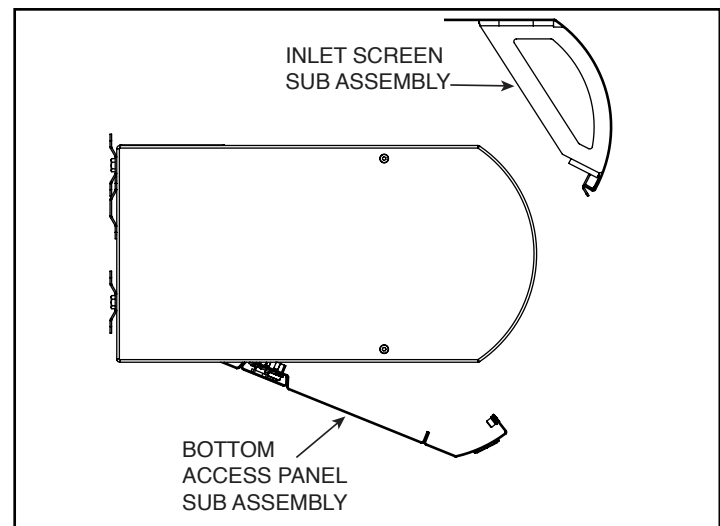

Figure 10 - Bottom Access Panel Removal
4. Re-install the bottom access panel and intake screen. **See Figure 10.**